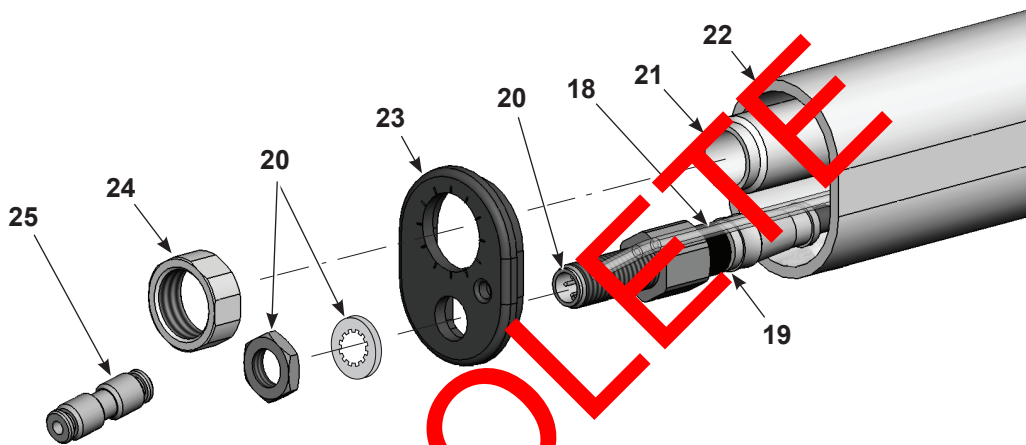

Figure 7-2 Tube-Mount Spray Gun Disassembly 1 of 5
2. See Figure 7-2. Disconnect the union (25) from the clear 4-mm air tubing (18).
3. Disconnect the spray gun cable (not shown) from the cable receptacle (20).
4. Unscrew the clamping tube nut (24) from the clamping tube (21).
5. Remove the nut and lock washer from the cable receptacle (20). Save the nut and lock washer for reuse.
6. Pull the end cap (23) off the end of the spray gun.